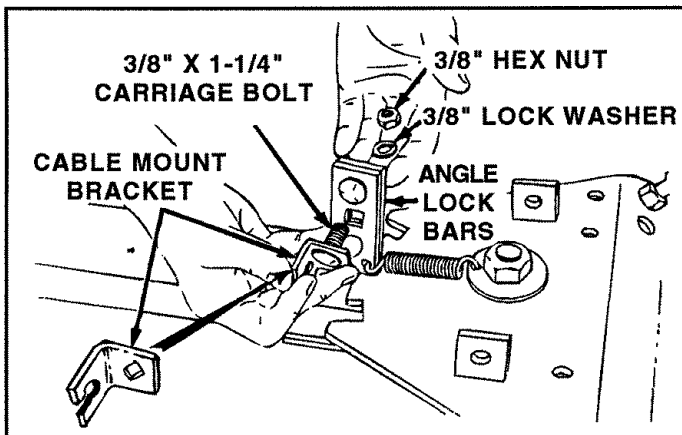
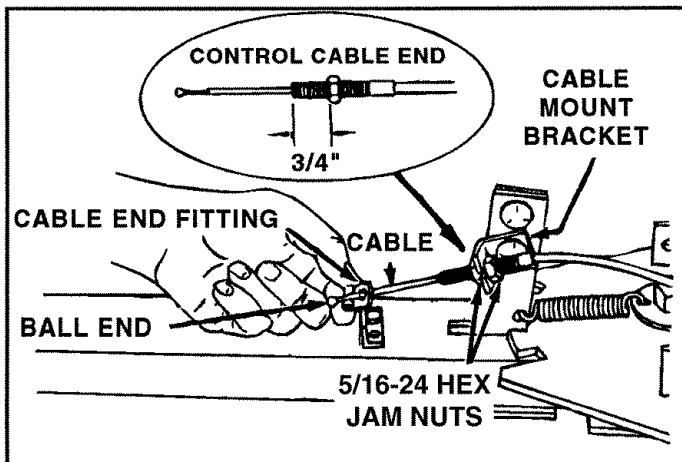

FIGURE 6
FIGURE 7
- Assemble 3/8" x 1-1/4" carriage bolt through square hole in cable mount bracket and through square hole in lock bars. See figures 6 and 7. Hold cable mount bracket in position as shown in figure 7 and secure with 3/8" lock washer and 3/8" hex nut.
- Assemble one 5/16-24 hex jam nut onto threaded end of control cable approximately 3/4" from end. Assemble threaded cable end through round hole in cable mount bracket and secure with another 5/16-24 hex jam nut. See figure 7.
- Assemble ball end of cable through round hole in cable end fitting and into slot of fitting. See figures 7 and 8.